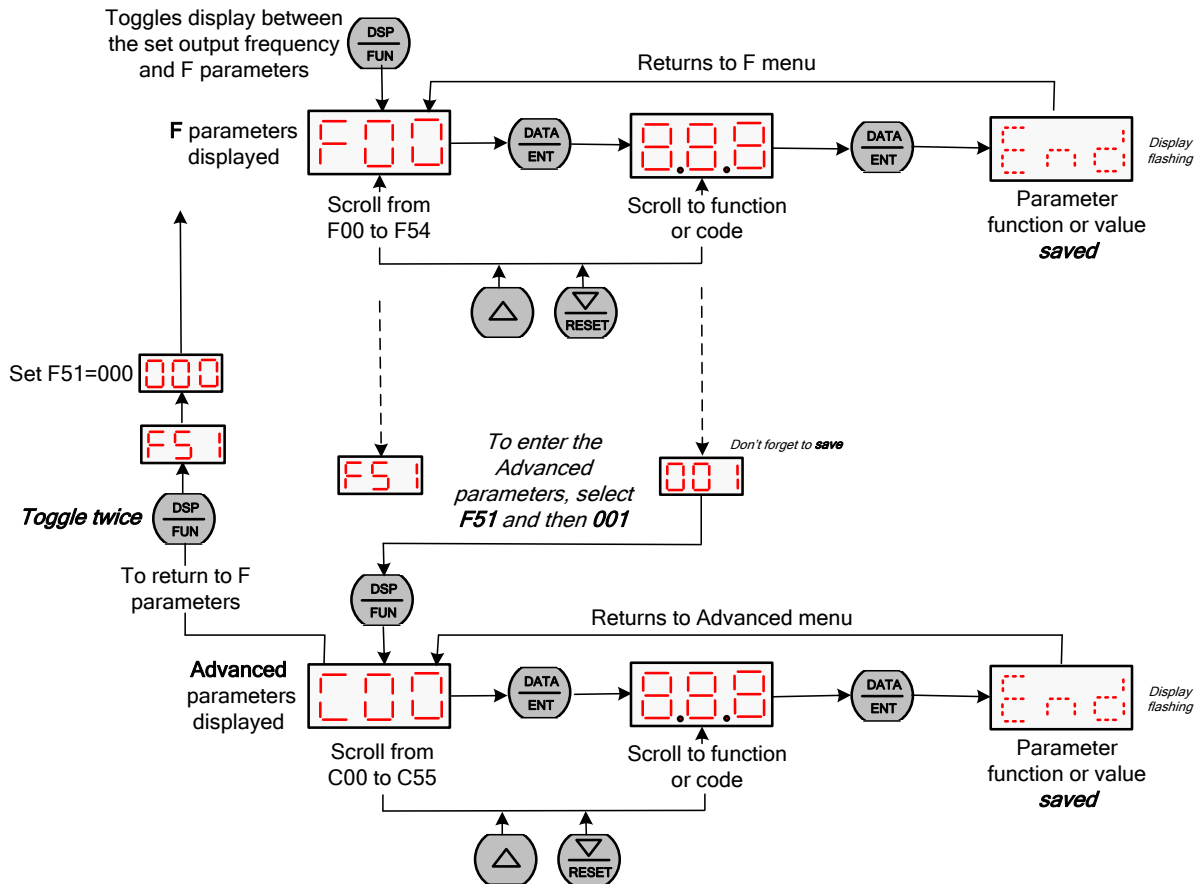

Fig. 9.4.1 Set F (Basic) and C (Advanced) Parameters
9.4 Setting Parameters F(Basic) and C(Advanced) Fig. 9.4.1